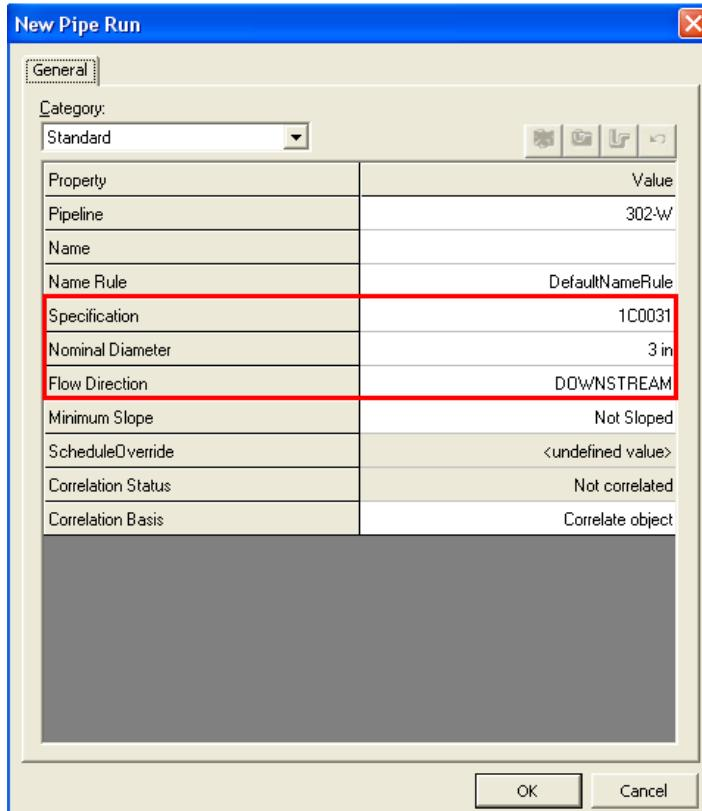

Figure 11. 29: New Pipe Run Dialog Box
15. While still on the Route pipe Ribbon lock the **Angle** at 90 deg. and lock **Length** at 3' as shown in Figure 11. 30.